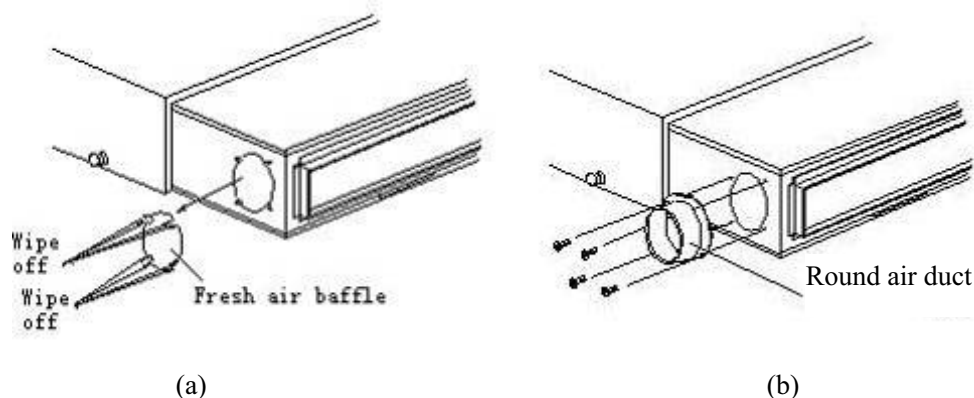

Figure 1-1-13
- ◆ The fresh air battle, as shown in Figure 1-1-13(a), must be removed for mounting the fresh air duct. If the fresh air duct is not in use, gaps around the battle shall be sealed by sponge.